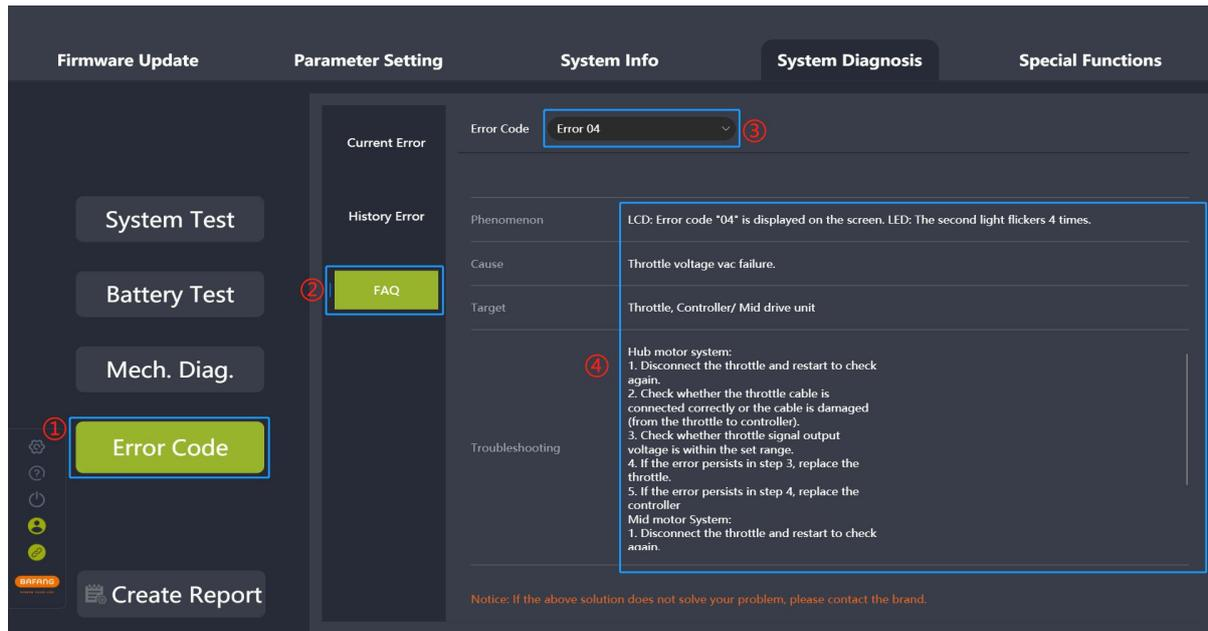

Fig. 7-8 FAQ
- (1) Click "Create Report", and a pop-up window will prompt "Do you want to jump to System Info?" (Fig.7-8).
- (2) To read system information, click "System Info" to jump to it.
- (3) Click "Create Report".
- (4) Select the local save path.
- (5) Click "Save" to generate a PDF report.